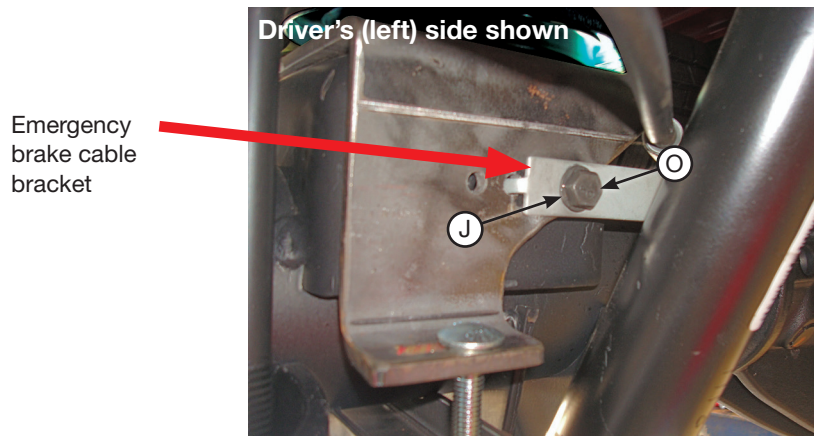

*fig. 17*
1. Position the lower bracket to best align the air spring. Insert two 3/8" x 3 1/2" carriage bolts (L) through the lower bracket mounting legs (Fig. 17).
2. Insert the lower clamp bar (M) over the two carriage bolts previously installed and cap with two 3/8" nylon lock nuts (I) and flat washers (J). Torque evenly to 16 lb.-ft. (22Nm) (Fig. 17).
3. Attach the brake lines and emergency brake cable that were un-bolted from the rear of the axle in the "Getting Started" section by attaching them to the lower bracket with the new M8 screws (O) and flat washers (N) provided (Fig. 17). Tighten securely.